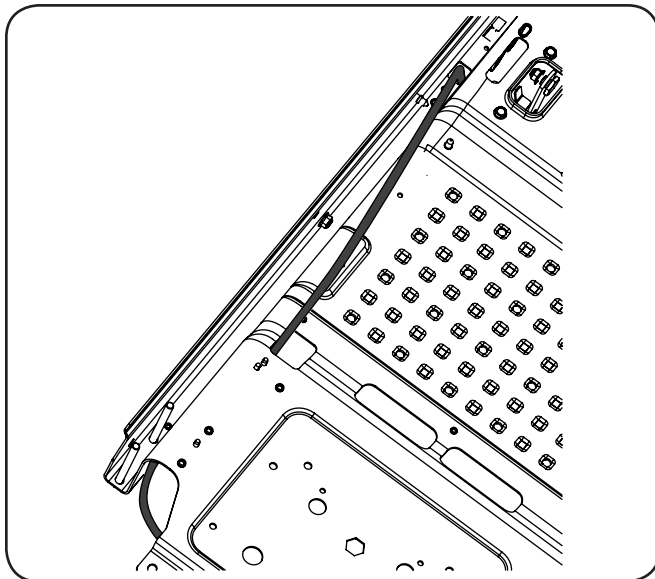

Figure 1-11
14. Route the harness as shown in Figure 1-11 on the RZT models. For Z-Force models skip ahead to step 15.